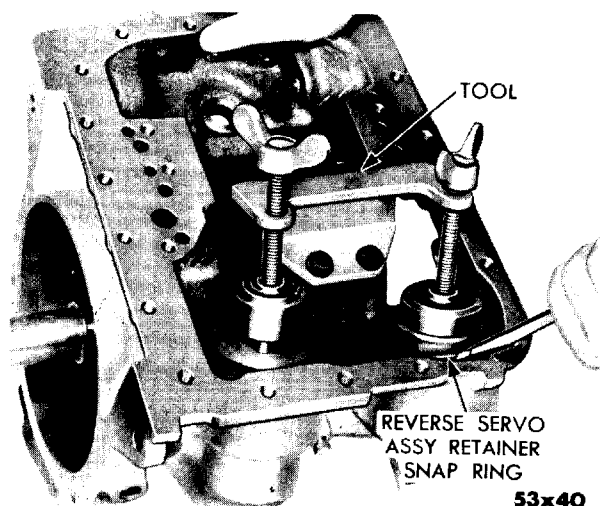

Fig. 33—Removal and Installation of Reverse Servo Assembly Retainer Snap Ring
(1) Install compressor, Tool C-3289 or C-3529, on transmission case (use oil pan screws) and compress reverse servo piston spring retainer.
(2) Using a screw driver, remove the reverse servo piston spring retainer snap ring, as shown in Figure 33. Loosen compressing portion of tool. Spring retainer may require guiding out of transmission case.
(3) Remove the spring retainer, spring and servo piston and plug assembly.
(4) Remove the servo piston seal (lip type neoprene) from piston.
(5) Remove reverse servo piston plug snap ring.
(6) Remove plug and cushion spring from piston. Inspect servo bore for scoring. Light scores may be